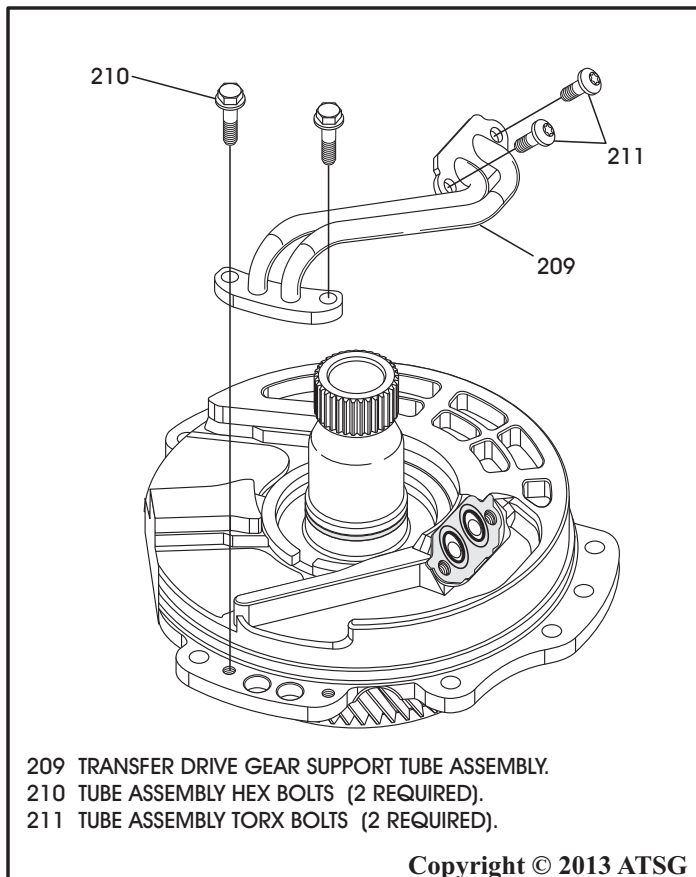

Figure 106
10. Install transfer drive gear support tube assembly, as shown in Figure 106.
11. Install the two Torx bolts ensuring that gasket is still in place, as shown in Figure 106, hand tight.
12. Install the two Hex head bolts hand tight, as shown in Figure 106.